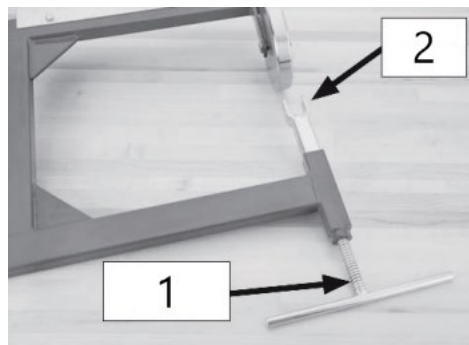

Fig. 6 – Installed lower cylinder-adjustment screw
- Lay down the frame and screw the lower cylinder-adjustment screw into the frame vis-à-vis the cylinder holder (see Fig. 6).